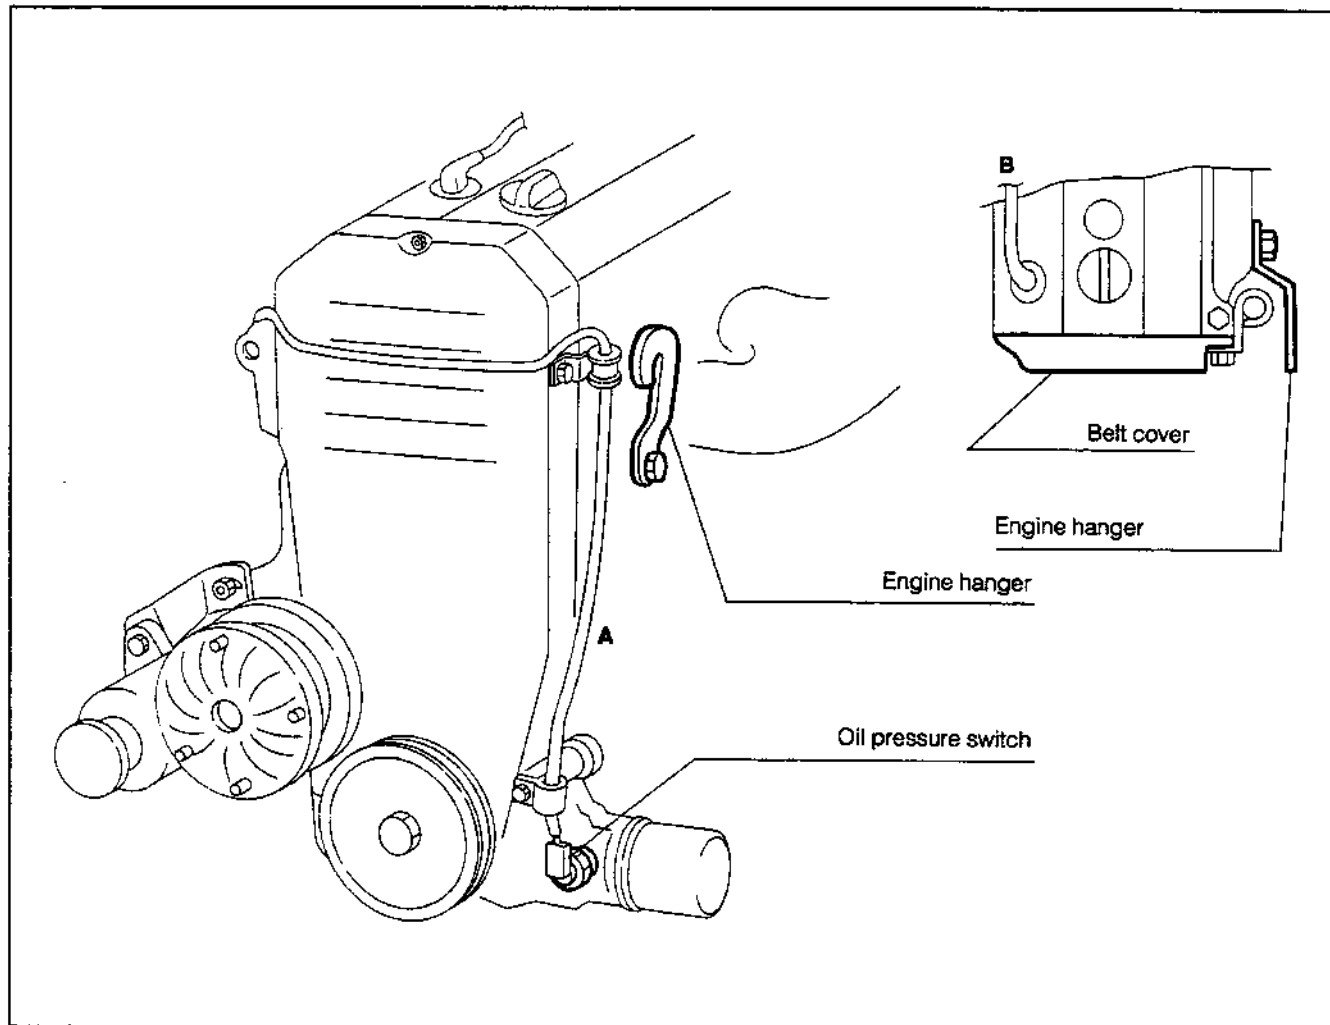

Fig. 6
| 1 | Perform assembly so that the bent member [] of the fusible link box terminal may not ride on the starter cable and fusible link terminal. (Fig. 6) | A | Ensure that the terminal does not ride on other parts. |
| 2 | Install the following parts to the battery + terminal in this sequence: (1) starter cable (2) fusible link terminal and (3) fusible link box terminal. (Fig. 6) | B | Ensure that all parts are assembled as specified. |